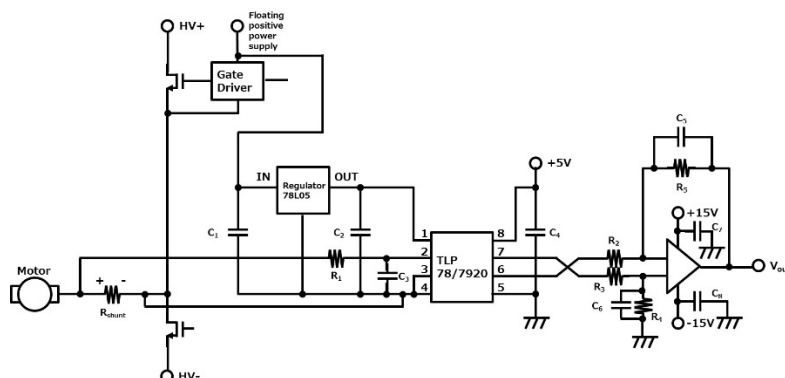

Fig.6 Motor current sensing circuit example using TLP7820/7920
- 0.1 μF ceramic capacitors should be connected to V_{DD1} - GND1 and V_{DD2} -GND2 to obtain the stabilized operation. The bypass capacitors should be placed as close as possible (within 10mm is recommended) to each pin (C_2 and C_4 shown in Fig.6).
- A clock-operated switched capacitor is embedded at the ADC input, 0.01 μF bypass capacitor should be connected at input pins to obtain certain accuracy and follow the clock operation (C_3 shown in Fig.6).
- Preventing influences of aliasing noise to the ADC, an anti-aliasing low-pass filter should be placed. The filter can be formed using the bypass capacitor (C_3) and a resistor (R_1 shown in Fig.6). Since filtering frequency range of the anti-aliasing filter should be between the signal bandwidth and the Nyquist frequency, the frequency from 400 kHz to 1 MHz is recommended.